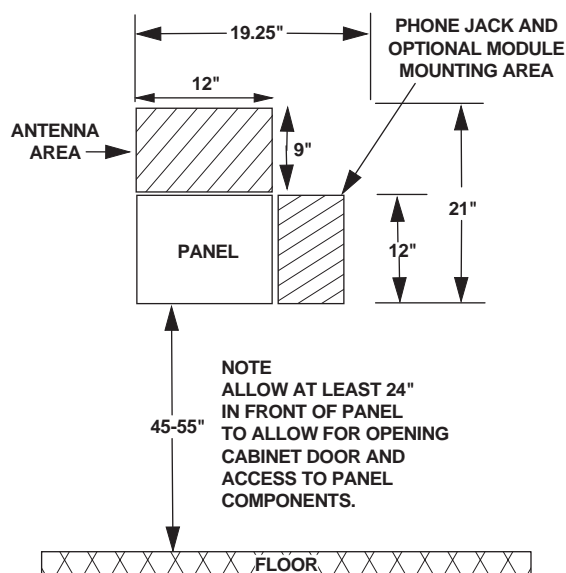

Figure 1. Determining Panel Location
- ❑ Mount the panel at a comfortable working height (about 45 to 55 inches from the floor to the bottom of the panel, as shown in Figure 1).